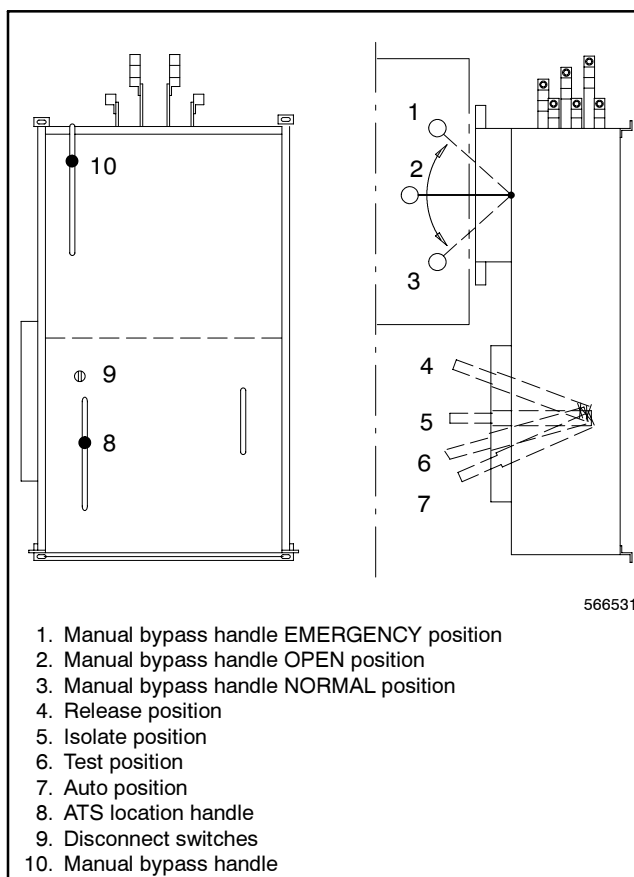

Figure 2-5 Bypass Switch Handle Positions
1. Open the cabinet door. See Figure 2-5.